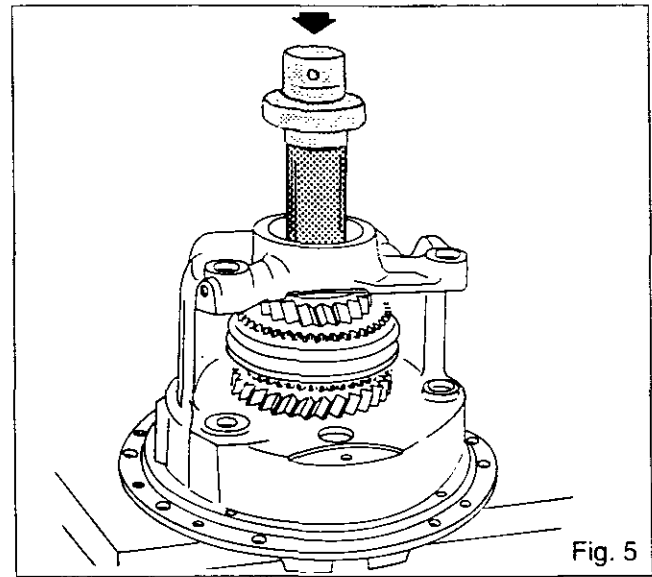
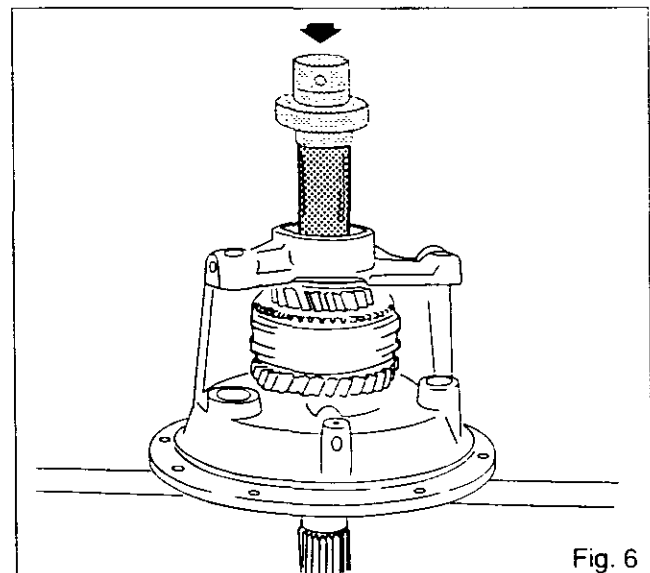

Fig. 5
Fig. 6
16. Unscrew set-screw (10).
17. Withdraw the shaft (13) carrying the reverse idler gear (15).
18. Take out the two washers (12) and (17), the reverse idler gear, the two needle roller bearings (14) and (16), and the spacer (11).
20. Extract circlip (25) (reversing mechanism with speedshift).
21. Remove spacer (36), sealing ring (37) and pipe (42) (reversing mechanism without speedshift).
23. Press out the secondary shaft (19) using a press and a suitable press tool (Fig.5 - reversing mechanism with speedshift) - (Fig.6 - reversing mechanism without speedshift).